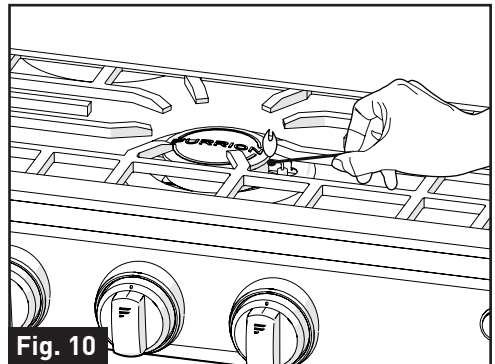

Fig. 10
4. **IMMEDIATELY** strike and place a burning long wooden match (or the match extension or a butane lighter with extension) through the spaces in the grate near the ports of the burner to light the burner. (Fig. 10)